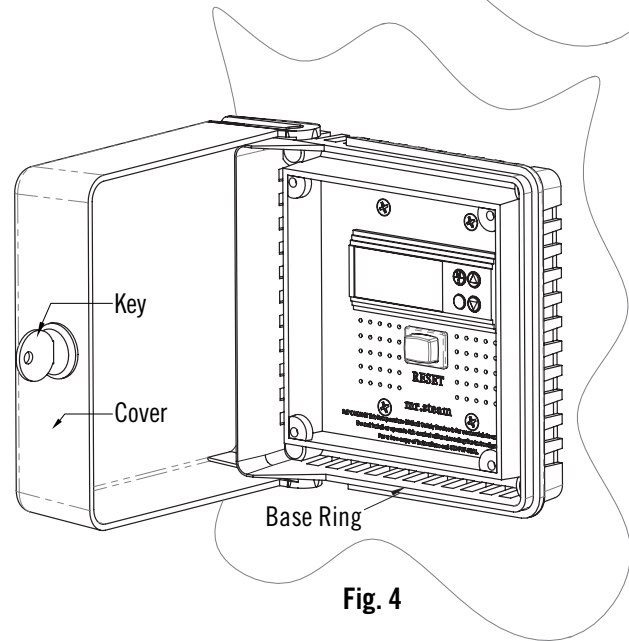

Fig. 4
- Snap Cover back onto Base Ring and lock with key (included), see fig 4.